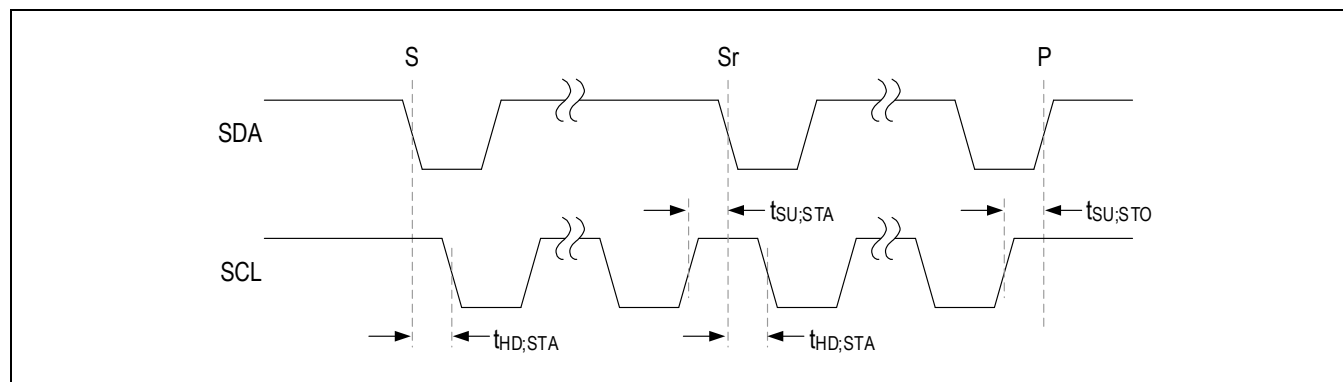

Figure 7. START, STOP, and REPEATED START Conditions
A controller device initiates communication by issuing a START condition. A START condition is a high-to-low transition on SDA with SCL high. A STOP condition is a low-to-high transition on SDA while SCL is high (Figure 7). A START (S) condition from the controller signals the beginning of a transmission to the device. The controller terminates transmission and frees the bus by issuing a STOP (P) condition. The bus remains active if a REPEATED START (Sr) condition is generated instead of a STOP condition.